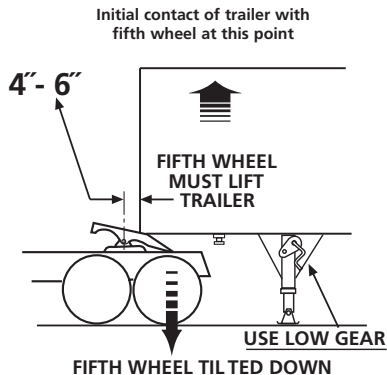

FIGURE 2
4. Make sure the fifth wheel ramps are tilted down as shown in *Figure 2*.